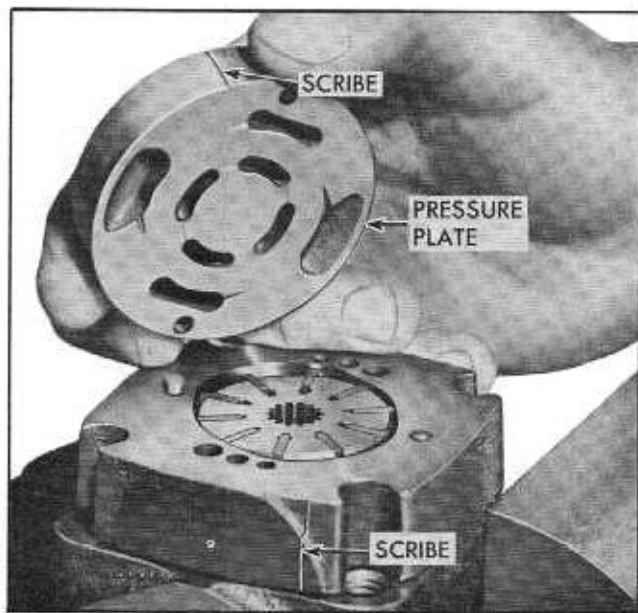

Fig. 9-74 Removing Pressure Plate
8. Mark position of pressure plate and remove plate from dowel pins (Fig. 9-74).